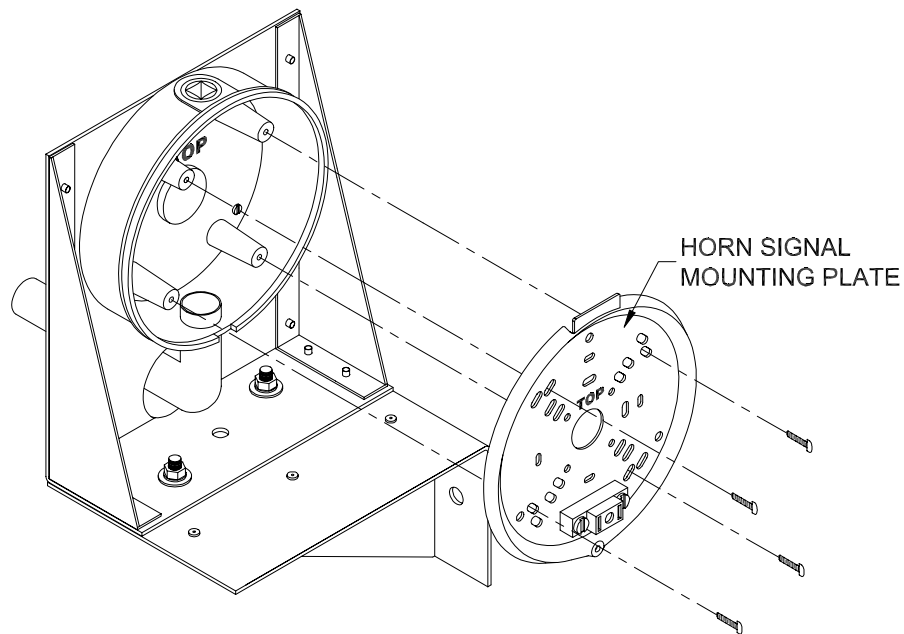

Figure 8 Horn Signal Mounting Plate Attachment
13. Align the horn signal mounting plate with the back box so that the word “TOP” on the horn signal mounting plate and the back box should be oriented in the same direction and the screw hole on the bottom edge of the horn signal mounting plate should be directly over the gap in the back box gasket as seen in figure 8.